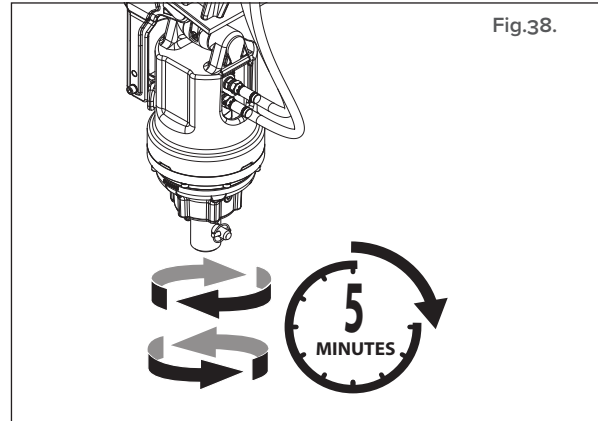

Fig.38.
2. Repeat operation in the anti-clockwise rotation. **Fig.38.**